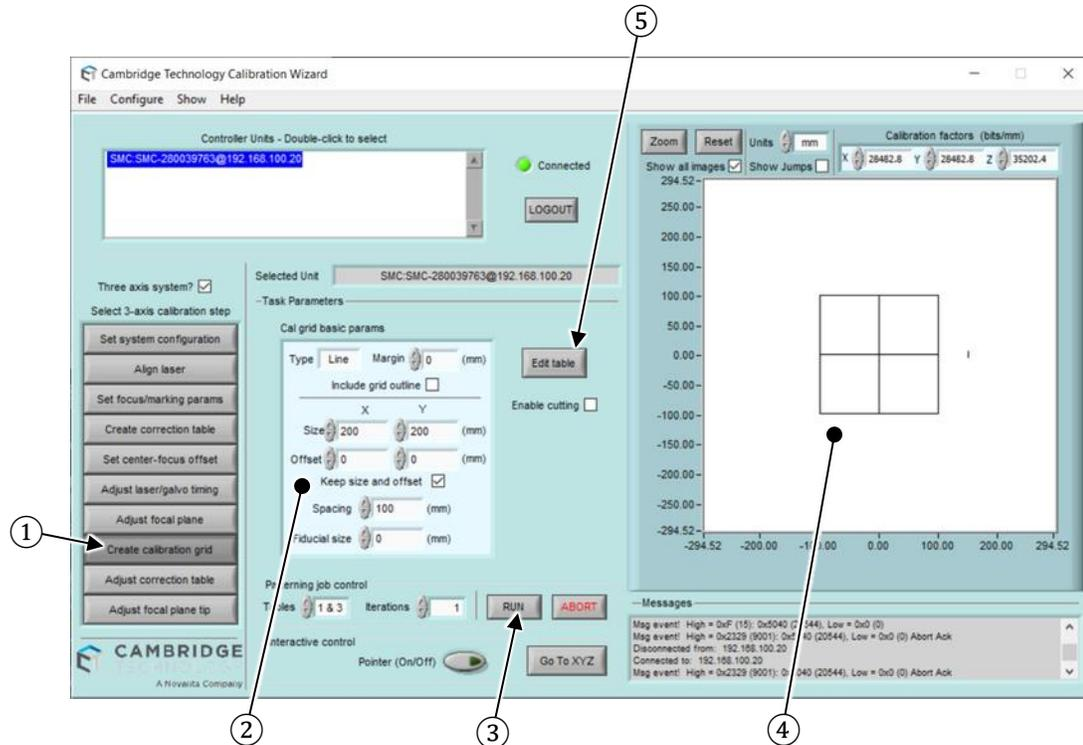

Figure 28: Adjusting the correction table
12. Referring to Figure 28 on page 74, a correction grid can be created by taking the following steps.
- (1) Click **Adjust correction table**.
- (2) Set the marking parameters, in this case for a calibrated grid **Size** of 200 × 200 mm.
- (3) Click **Run** to scan the pattern as shown in (4).
As shown by point (2) in Figure 28 on page 74, there is a wide range of calibration grids that can be defined by adjusting these values. With the correction grid scanned it needs to be measured and correction often correction factors applied. This is often an iterative task. In this example the measurement acquisition method is manually based. In precision applications this method is of limited use, and more precise measurement techniques should be used. A description at how to import measurement data into the Calibration Wizard can be found in section 4.4.4 on page 76.
- (5) Click **Edit table**.
There is an option to save the measurement correction data should this be required. Click the *Edit Correction Table* window and save the file to the controller when asked. When the software returns to the screen shown in Figure 28 on page 74 and if the field requires further corrections then re-scan the correction grid and repeat the process of scan → measure → edit correction values. If the field accuracy is acceptable the process of field correction is complete.
1. Referring briefly back to Figure 28 on page 74, click **Edit table**.